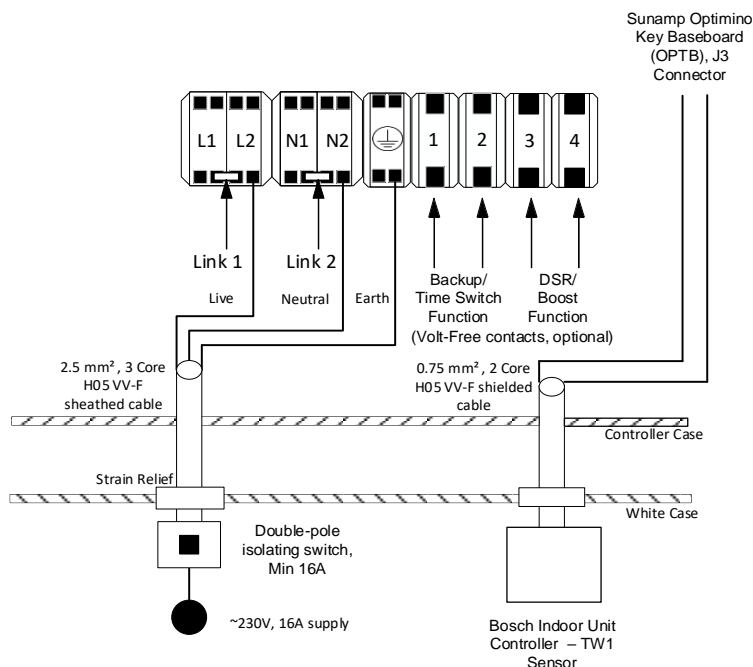

Figure BH.1 - Thermino xPlus with BH01 Optimino key
- Thermino xPlus with the “BH01” & “BH02” Optimino keys (D0084 – Section 6.4.2 for wiring instructions & Figures BH.1 & BH.2 below)
Using a 2-core shielded cable 0.75mm², the cable will act as a hot water heating tank sensor from the Sunamp Optimino Board (OPTB) - terminal J3 into the Heat Pump Indoor Unit controller PCB Terminal - (TW1 - DHW Storage Temperature) (please refer to HP installation manual). Please run the wire into the heat battery appliance via the appliance case cabling grommets and then into the control box housing through the hole available. Secure the cables in terminals J3 on the Optimino Board; please see Figures BH.1 & BH.2 below for reference.